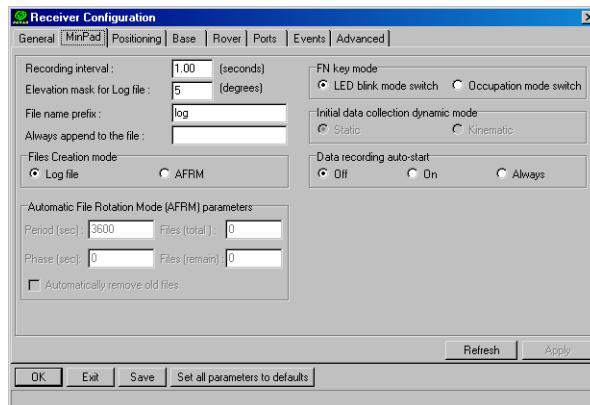

Figure 2-15. Receiver Configuration – MinPad Tab
1. Click the MinPad tab, configure the following settings, and click Apply (Figure 2-15).